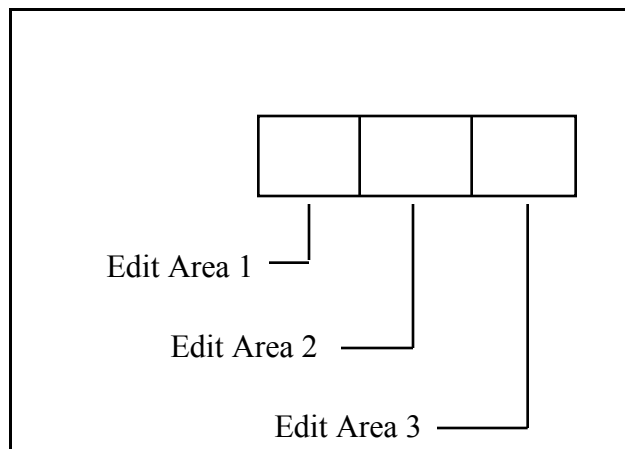

Figure 2-7 Bar Code Object Edit Areas
7. The bar code object has three edit areas for entering data. See Figure 2-7. Edit area 1 is for entering a prefix, edit area 2 is for the main text, and edit area 3 is for entering a suffix.